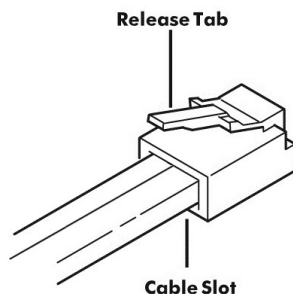
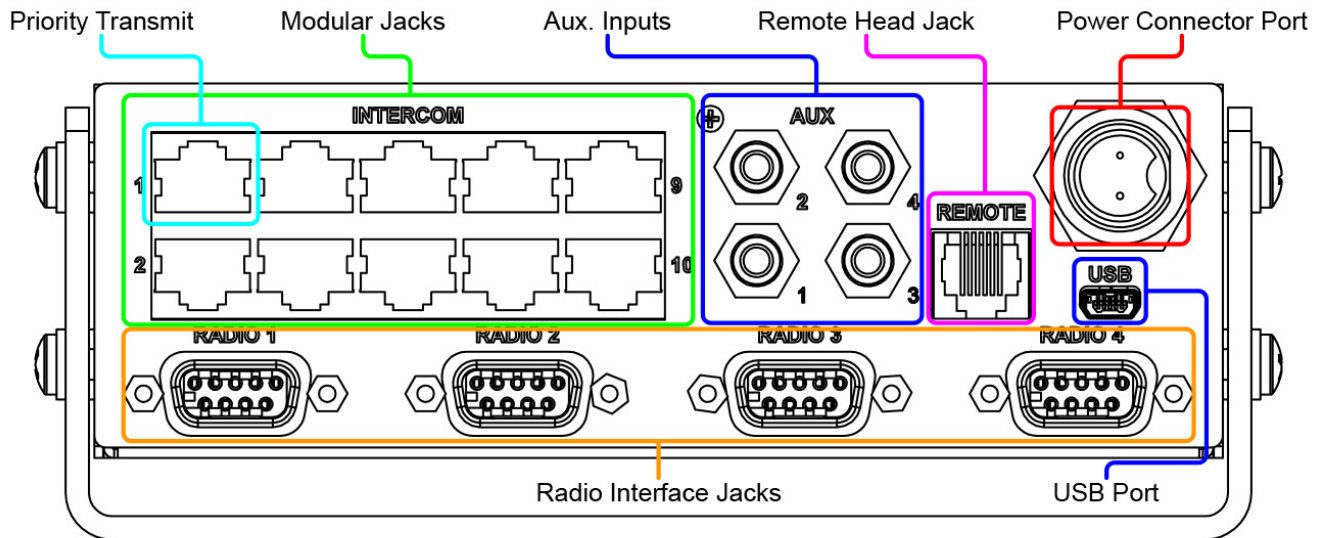

Figure 12
FIGURE 13: Modular Jacks
IMPORTANT: ALWAYS make sure the printed side (or smooth side) of the cable is facing away from the release-tab on the RJ-12 Modular Plug (Figure 12). This ensures proper orientation of the plug on each end of the cable.
6. With the release-tab on the RJ-12 Modular Plug facing up (Figure 12), insert the RJ-12 Modular Plug into a modular jack on the rear of the intercom unit (Figure 13).